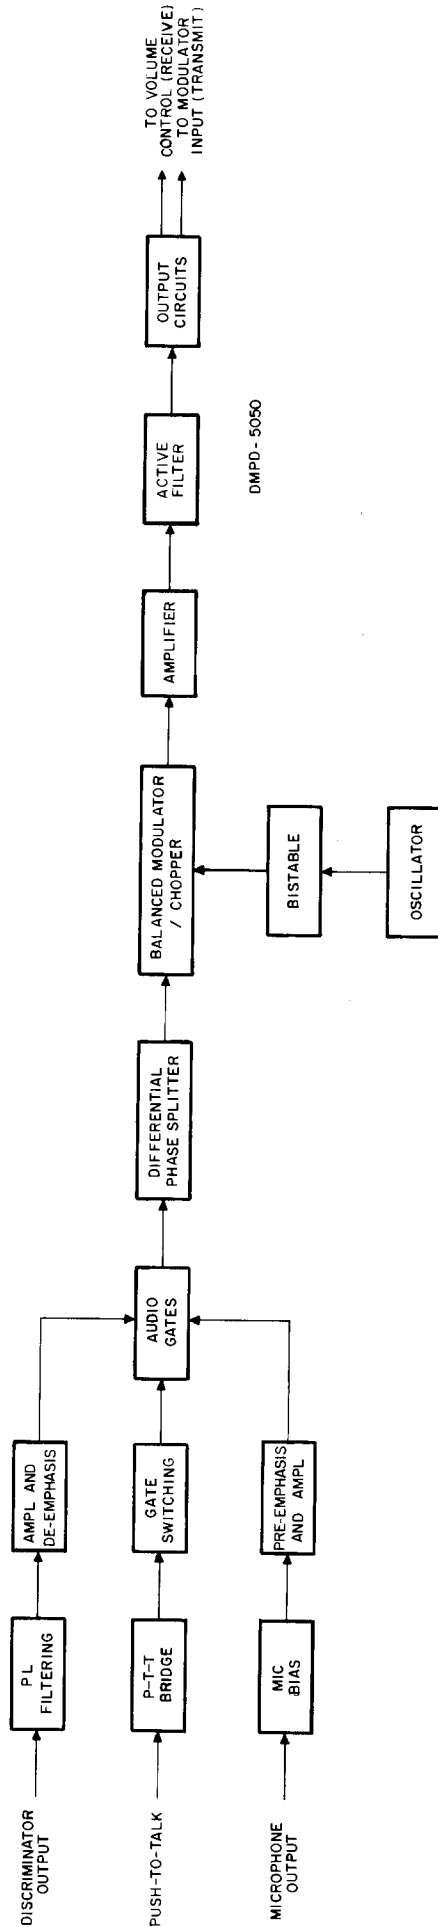

Figure 4. Functional Block Diagram
3.1.2.1 (See figure 4.) The microphone output is applied through a pre-emphasis network and amplifier to one of two audio gates that are controlled by the output of a P-T-T circuit. During transmission, the P-T-T input turns on the transmit audio gate which is in series with the microphone input and turns off the receive audio gate. Microphone audio is pre-emphasized, amplified, and applied through the gate to a differential phase splitter which produces two 180-degree out-of-phase output signals. The output of the differential phase splitter is applied to the balanced modulator/chopper.
3.1.3.1 (See figure 4.) Received scrambled audio from the radio set discriminator is applied through the "PL" filter, de-emphasis circuits, and amplifier Q1 to the receive audio gate.